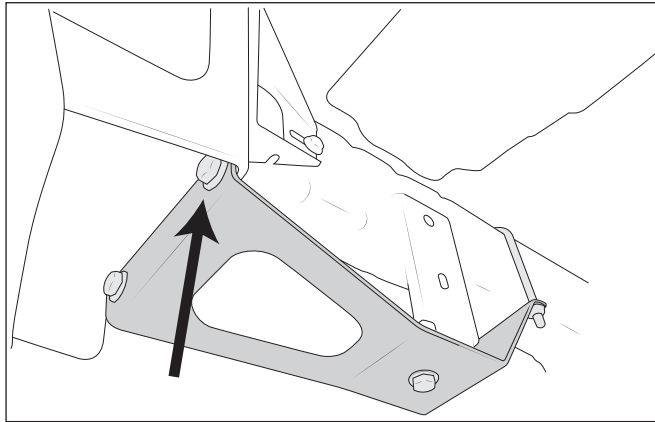

Figure 32
7. Remove bottom inside bolt from bumper bracket/reinforcement plate on both sides (fig. 32).